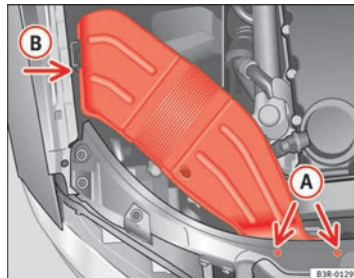

Fig. 214 Air duct on right side of vehicle ▶
- Unscrew bolts **A** ⇒ page 275, fig. 214.